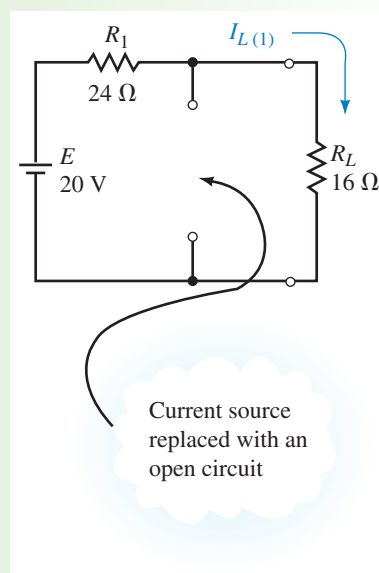

FIGURE 9-2
- We first determine the current through R_L due to the voltage source by removing the current source and replacing it with an open circuit (zero amps) as shown in Figure 9-2.